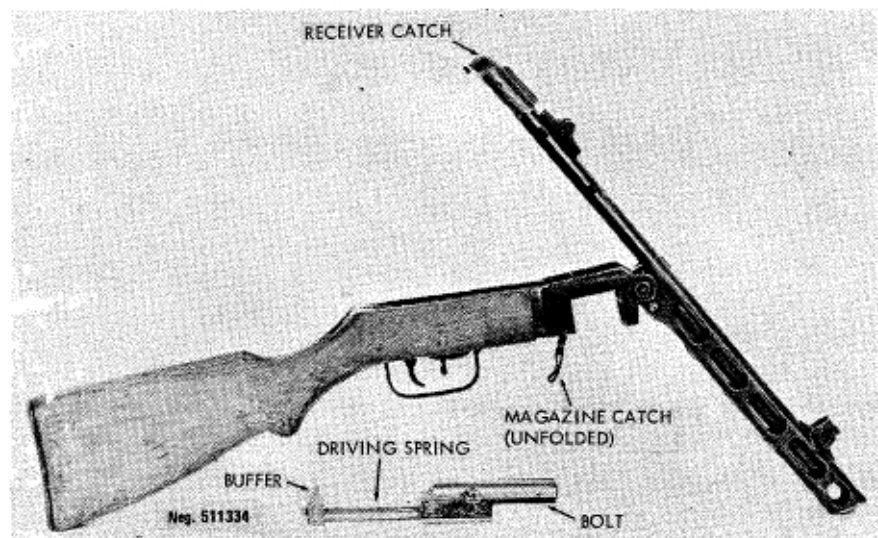

Figure 35. PPSH-41 field stripped.
d. Remove the magazine by unfolding the magazine catch (fig 35) and pressing it forward, toward the magazine; simultaneously pull the magazine straight down and out of the magazine opening.
(1) Clear the gun (para 57c), but do not insert the magazine.
(2) Press in on the receiver catch at the rear of the receiver and swing the barrel down (fig 35).
(3) Grasp the operating handle, pull it rearward and upward, and rotate the bolt, driving spring assembly, and buffer